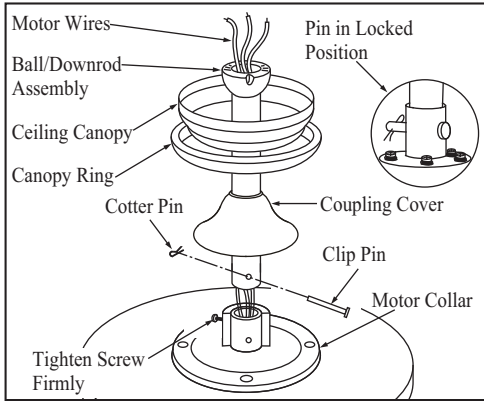

Figure 10
- Slip coupling cover, canopy ring and canopy onto downrod. Carefully reinstall hanger ball onto rod being sure that cross pin is in correct position, set screws are tighten and wires are not twisted. (Figure 10)